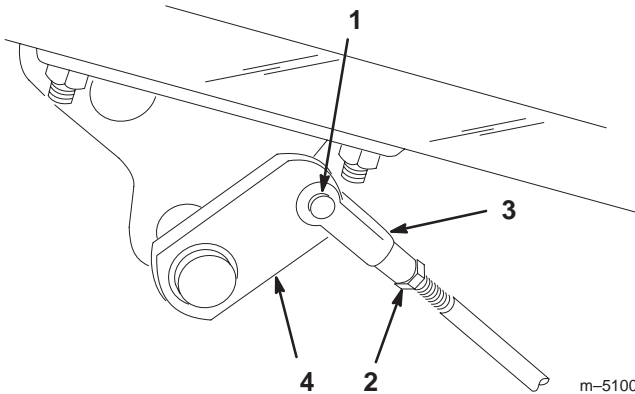

Figure 43
2. If the brakes do not lock equally, disconnect the brake rods by removing the cotter pin and clevis pin (Fig. 43).
3. Loosen the jam nut and adjust the clevis accordingly (Fig. 43).
4. Assemble the clevis to the brake shaft (Fig. 43).